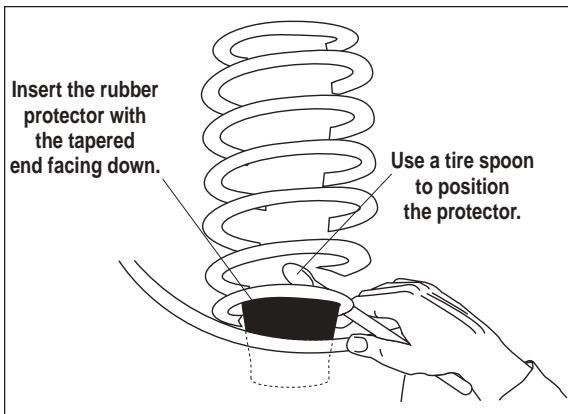

Figure 2
3. Install the lower protector (Figure 2) by dropping it through the upper coil spring seat with the tapered side facing down. Set the protector securely in place with a spoon-type tire iron.